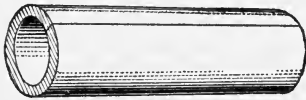

Fig. 1
**Butt Welded Pipe.**—Small sizes of standard-weight wrought-iron and steel pipe, that is, pipe ranging in size from  $\frac{1}{8}$ -inch to 3 inches in diameter, are made by butting the two edges of metal together, as shown in Fig. 1, and welding them in that position. This method of joining the edges